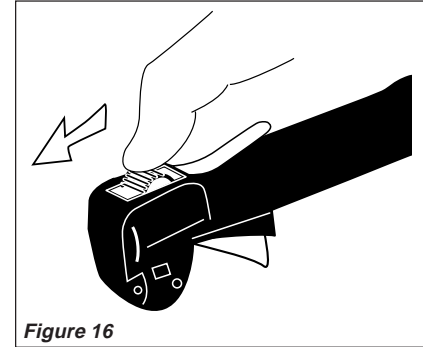

Figure 16
1. Slide the ignition switch to the “I” (START) position. See Figure 16.